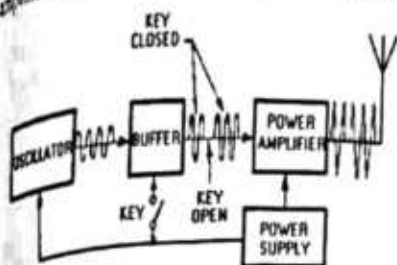

Figure 1 Basic CW Transmitter
Continuous Wave (CW) Transmitters - The output of a CW transmitter is a constant amplitude carrier wave that is either on or off. The CW signal is keyed on or off to transmit a code (usually Morse code) that can be interpreted at the receiving end. Figure 1 is an example of master-oscillator-power-amplifier CW transmitter with keying in the buffer stage.